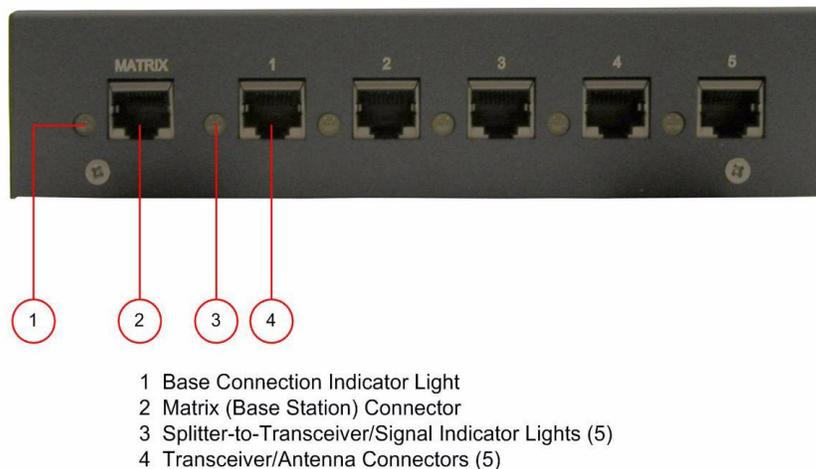

Figure 6-8 FS II Splitter Front Connector Panel
- Splitter: Port labeled “Matrix”. See Figure 6-8.